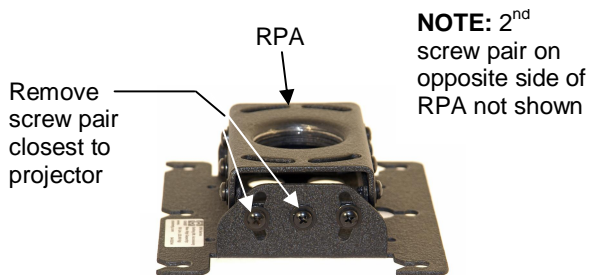

Figure 4. Remove front screw pair from RPA
1. On the RPA, remove two screws from the first set of slotted holes on the RPA. See Figure 4.